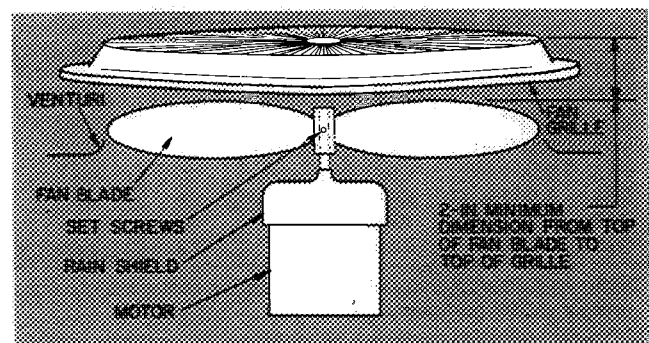

Fig. 9 — Condenser Fan Position
Condenser Fan Adjustment — Required fan position is shown in Fig. 9. Adjust fan by loosening setscrew(s) and moving fan blades up or down.
6. Reassembly is the reverse of the above procedure. Before replacing fan, be sure rain shield (Fig. 9) is in proper position on motor shaft.